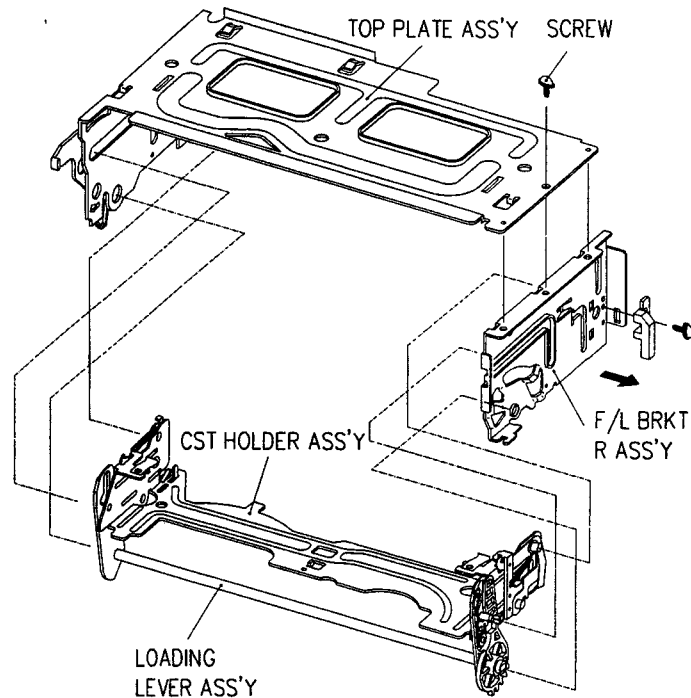

Fig.3-2 DISASSEMBLY OF THE FRONT LOADING ASS'Y
3-2. DISASSEMBLY OF THE FRONT LOADING ASS'Y (See Fig. 3-2~3-6)
- b. Remove the cassette holder assembly. (Fig. 3-2)